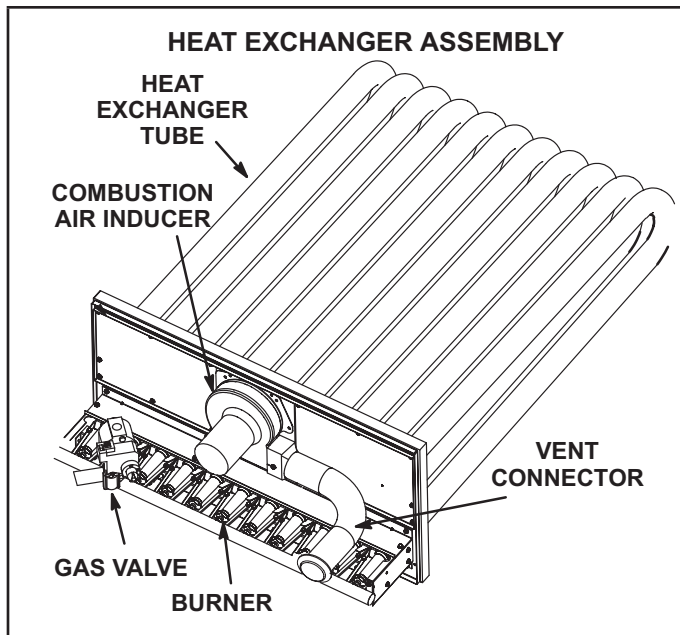

FIGURE 41
- 3 - Remove and retain screws securing combustion air inducer to flue box. Remove vent connector. See FIGURE 41.
Limit controls are factory-set and are not adjustable. The primary limit is located on the blower deck to the right side of the blower housing. See FIGURE 41.